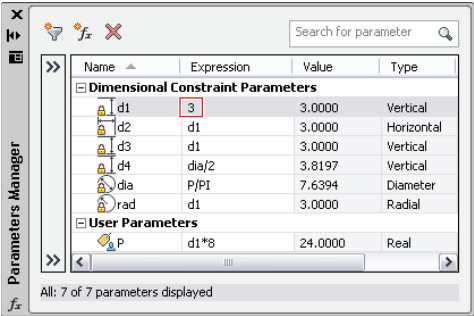

FIGURE 12.13 Changing a single parameter has a cascading effect.
3. Double-click the d1 parameter's expression. Type **3**, and press Enter. All parameter values are recalculated because they are all based on the first parameter you created earlier in this chapter (see Figure 12.13).